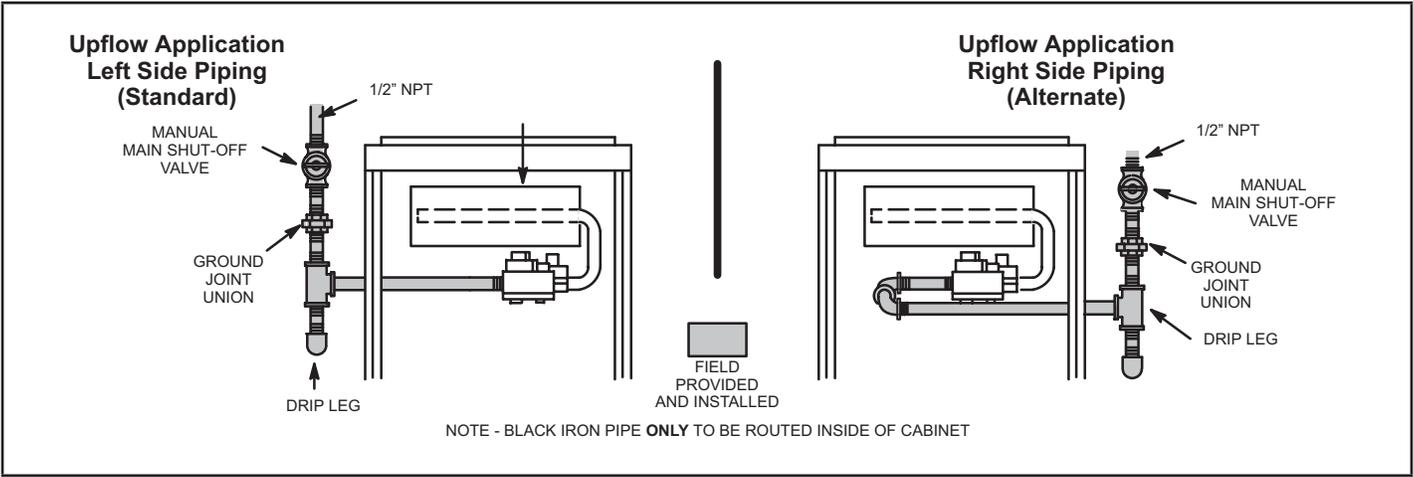
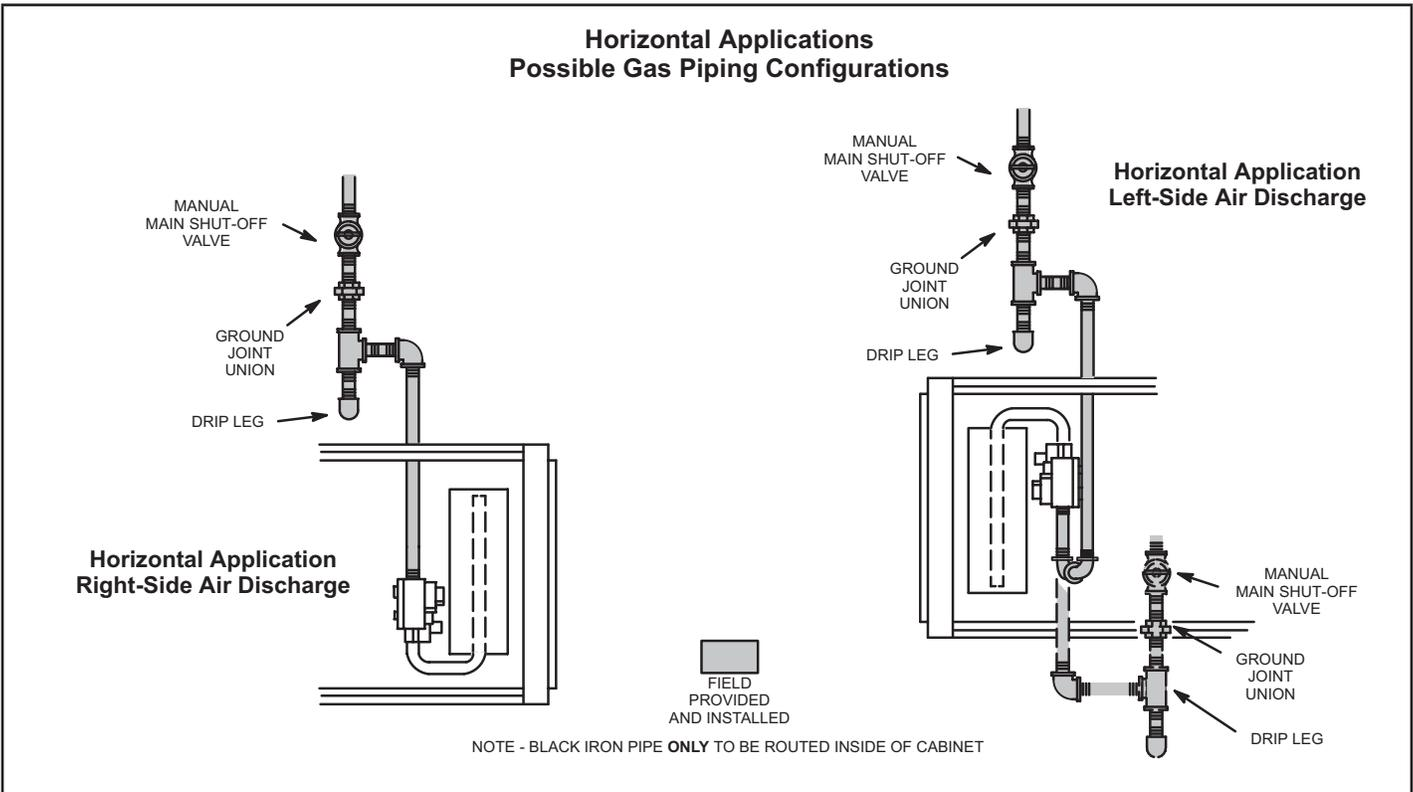

Figure 56
Figure 57
- 1 - Gas piping may be routed into the unit through either the left- or right-hand side. Supply piping enters into the gas valve from the side of the valve as shown in "Figure 56". Connect the gas supply piping into the gas valve. The maximum torque is 800 in lbs and minimum torque is 350 in lbs when attaching the gas piping to the gas valve.
- 3 - Gas piping must not run in or through air ducts, clothes chutes, chimneys or gas vents, dumb waiters or elevator shafts. Center gas line through piping hole. Gas line should not touch side of unit. See "Figure 56" and "Figure 57".